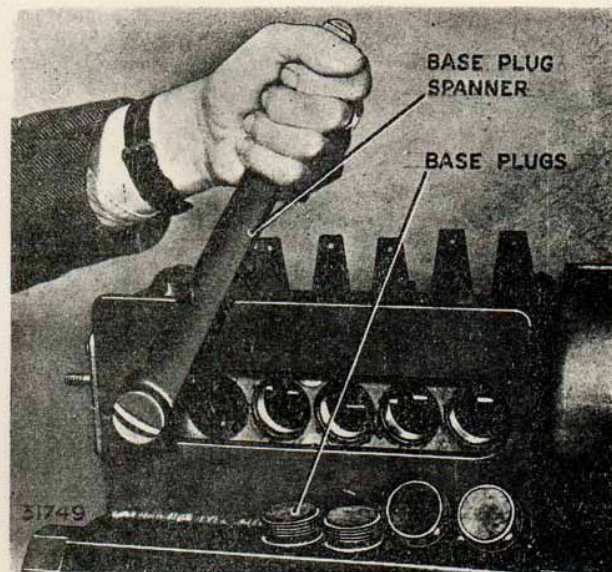

FIG. 20. REMOVING BASE CLOSING PLUGS.
5. Unscrew the base closing plugs (Fig.20).